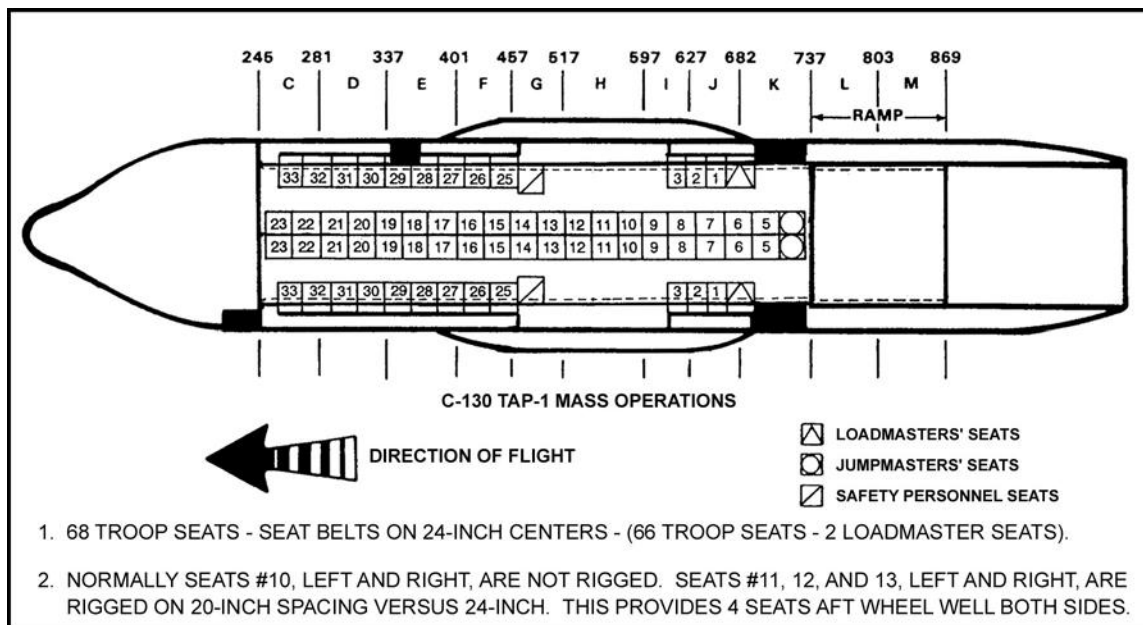

Figure 16-2. C-130 seating configuration.
a. **Peacetime Training (TAP 1).** A total of 64 parachutists can be seated in two sticks of 32. Numbers 1, 2, and 3 are seated outboard aft of the wheel well; 4 through 23 are seated on the inboard seats; and numbers 24 through 32 are seated outboard forward of the wheel well (Figure 16-2). Jumpers are normally loaded over the aft end loading ramp.